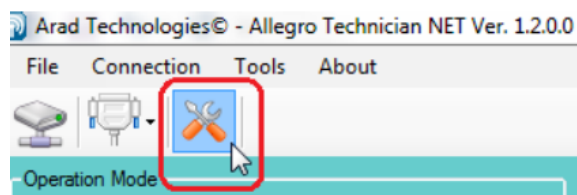

Figure 16
8. Select the **Settings** icon (see figure 16).